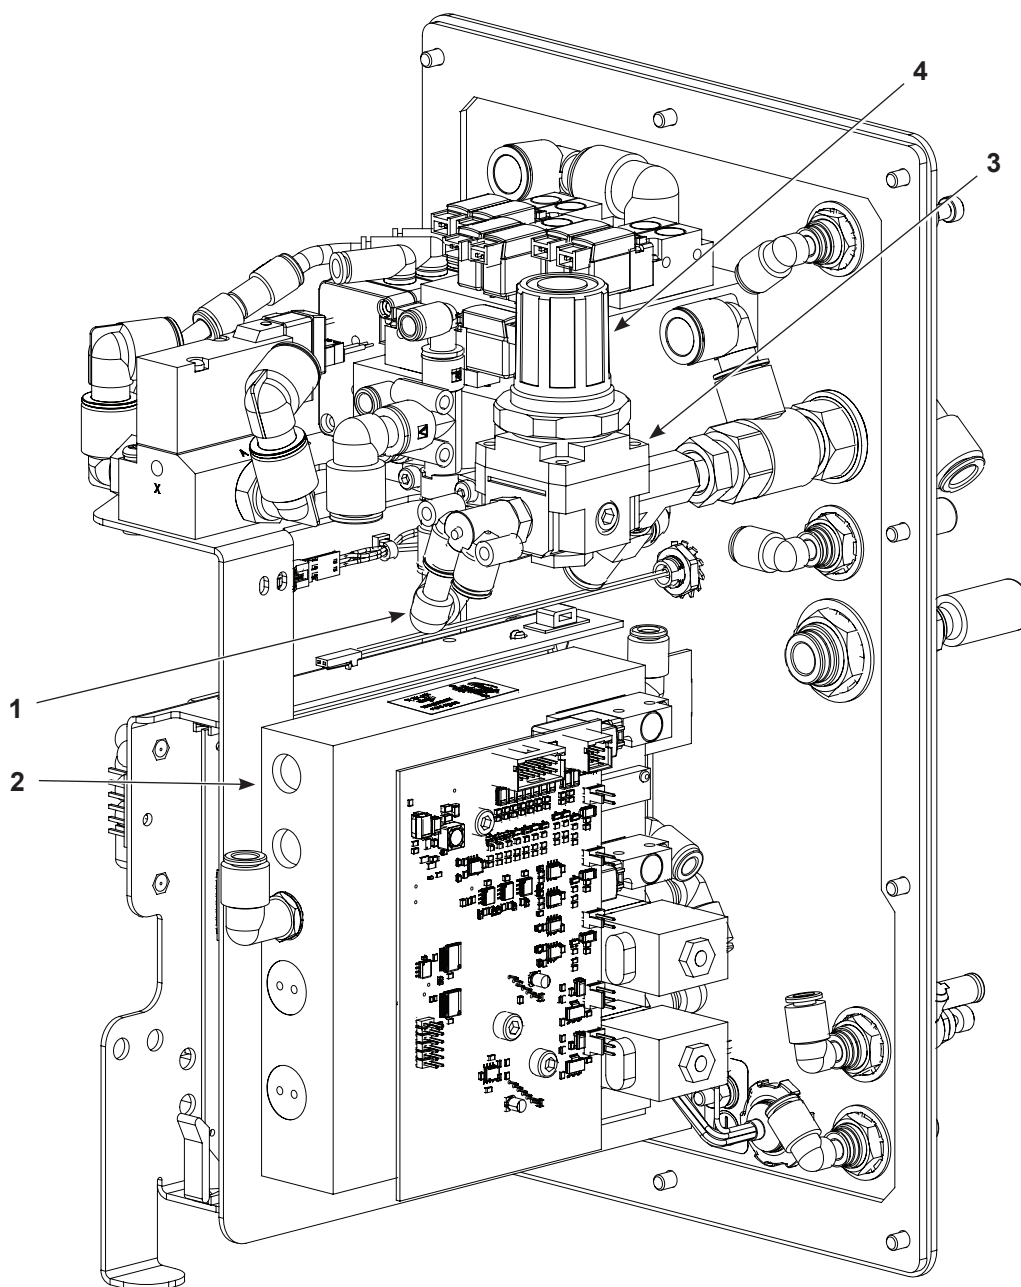

Figure 7-4 Regulator Adjustment
See Figure 7-4.
1. Locate the correct regulator (3) for iFlow module (2), as shown in Figure 7-4.
2. Unplug one of the fittings (1) from the regulator and plug the manometer gauge into the fitting.
5. Push the regulator knob (4) to lock the setting.